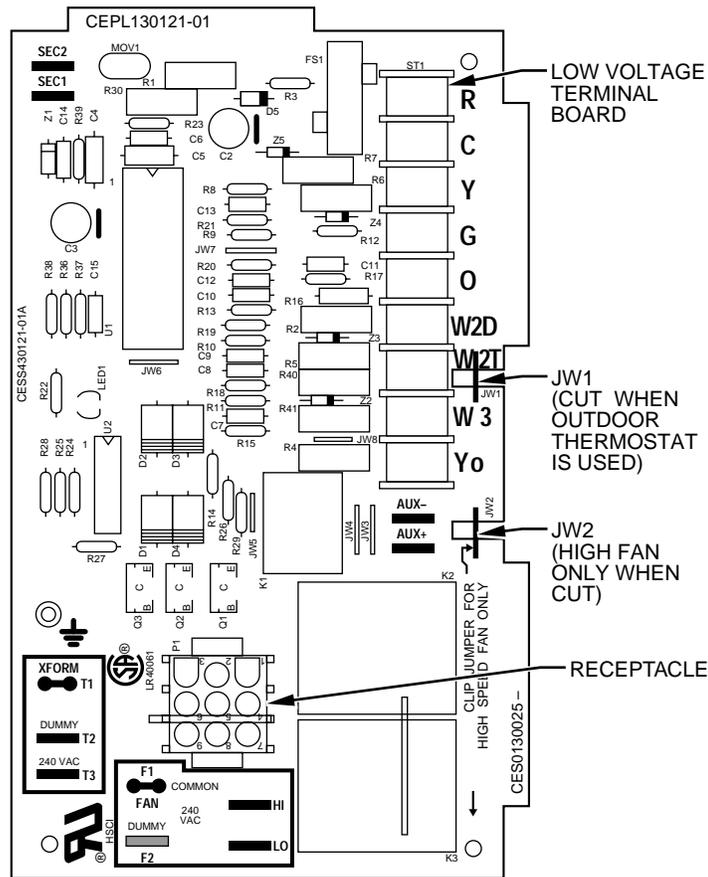

Fig. 27—Smart Heat Printed Circuit Board (PCB)
2. Jumper wires (JW1 and JW2). (See Fig. 27.)